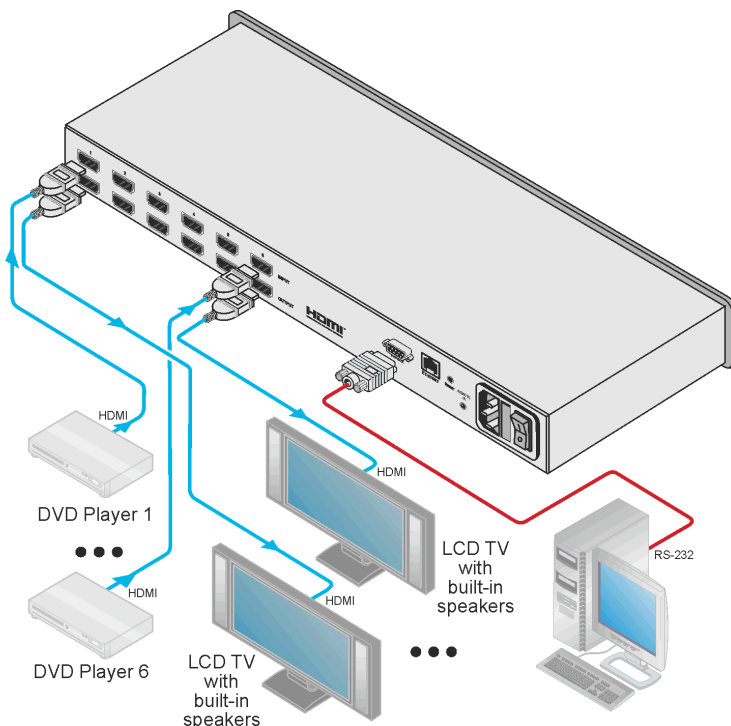

Figure 3: Connecting the VS-66H3 6x6 HDMI Matrix Switcher
To connect¹ the VS-66H3 6x6 HDMI Matrix Switcher as illustrated in the example in Figure 3:
4. Connect the device to the mains electricity (not shown in Figure 3).